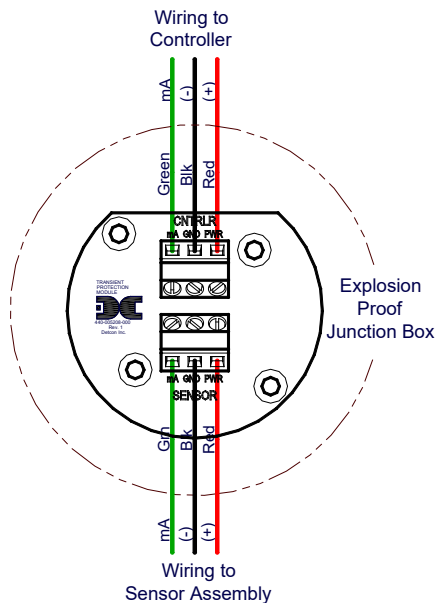

Figure 10 Sensor Wire Connections
- Observing correct polarity, terminate the 3-conductor 4-20mA field wiring (+, -, mA) to the sensor assembly wiring in accordance with the detail shown in **Figure 10**.